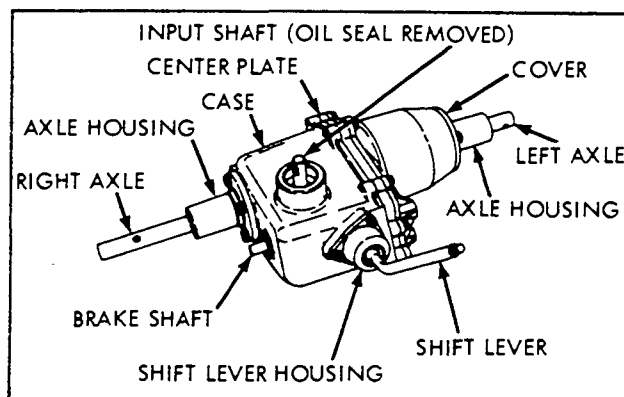

Figure 15
1. Clean the outside surface of the transaxle, away from the area where disassembly will take place. (Position shift lever in neutral position to help disassembly. See Figure 15. Remove screws (3) holding shift lever and shift lever housing. Remove shift lever housing. Drain oil through the shift lever opening (for service of shift lever assembly, refer to Page 15. Remove all keys from keyways, remove all burrs and dirt from shafts. On hardened shafts, use a stone to remove burrs. All seals should be replaced whenever a shaft is pulled through a seal. Always use a new gasket whenever the gasket surfaces have been separated.